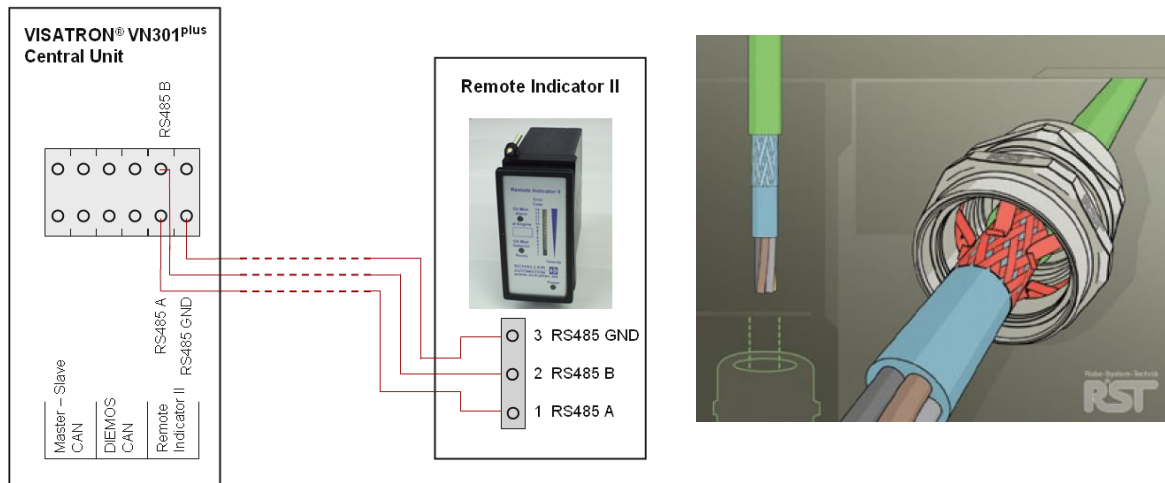

Figure 16: VISATRON® VN301^{plus} /VN301^{plus}EX. Electrical connection of Remote Indicator II with shield and cable gland.
- The shield must be electrically connected with the cable gland (Figure 16)